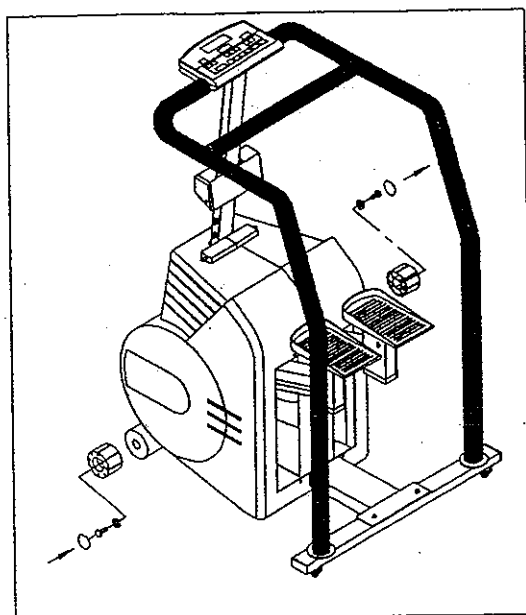

Fig. 3
2. Remove the transport wheel labels first, then unscrew the transport wheels on the front of the stair climber. Remove both wheels (see Fig. 3).